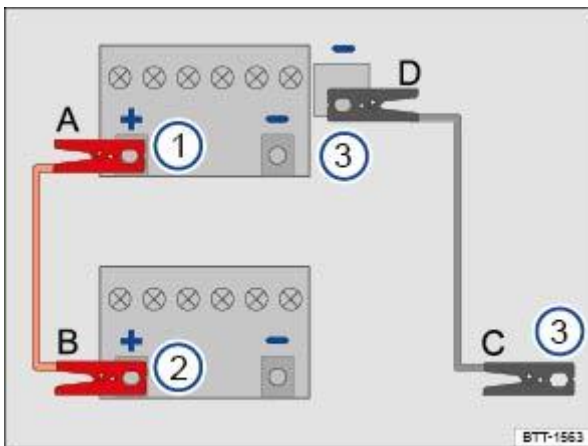

Fig. 177 How to connect the jump leads.
Key to ⇒ Fig. 177 :
The jump leads should be connected only in the order A – B – C – D ⇒ Fig. 177 .
② Switch off the ignition in both vehicles ⇒ Starting the engine .
② Open the cover on the 12-volt vehicle battery in the engine compartment, if a cover is installed ⇒ 12-volt vehicle battery .
② Connect one end of the red jump lead to the positive terminal (+) of the vehicle battery with the discharged 12-volt vehicle battery ⇒ Fig. 177 ① ⇒ ⚠ .
② Connect the other end of the red jump lead to the positive terminal (+) of the vehicle battery providing assistance ⇒ Fig. 177 ②.
② Connect one end of the black jump lead ⇒ Fig. 177 ③ preferably to a suitable jump start connection point (earth connection) or otherwise to a solid metal part that is securely bolted onto the cylinder block, or to the cylinder block itself of the vehicle providing assistance.
② On the vehicle with the flat 12-volt battery, connect the other end of the black jump lead ⇒ Fig. 177 ③ preferably to the jump lead connection point (earth connection), or otherwise to a solid metal part that is securely bolted onto the cylinder block, or to the cylinder block itself ⇒ ⚠ .
② Position the leads in such a way that they cannot come into contact with any moving parts in the engine compartment.
ⓘ When the engine is running, the jump leads should be removed only in the order D – C – B – A ⇒ Fig. 177 .